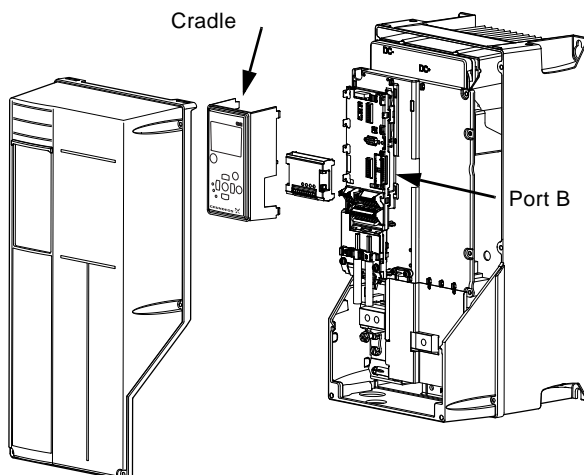

Fig. 4 Enclosures A5, B1, B2, B4, C1, C2, C3, C4, D1 and D2
2. Remove the control panel and the cradle from the CUE. See fig. 4.
4. Connect the signal cables, and fasten the cables with the enclosed cable strips. See fig. 4.